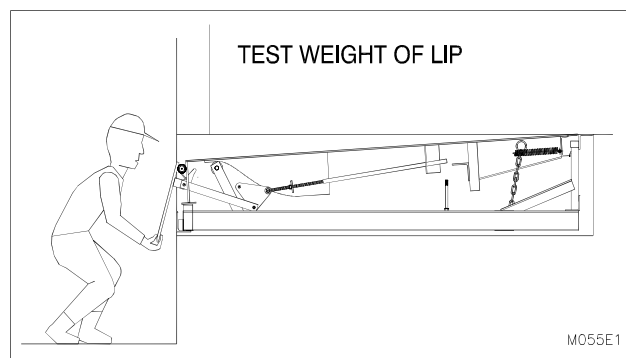

Figure 42: Lower Until Vertical
- e. After lip spring adjust is completed, cycle the dock leveler again and confirm operation takes place. (See "Figure 42: Lower Until Vertical" on page 32). Again test the lip weight at 45 degrees is approximately 15 to 20 lbs. If it is then go to step 11. If not continue to add more tension to the lip assist spring until the approximately 15 to 20 lbs. weight is achieved.